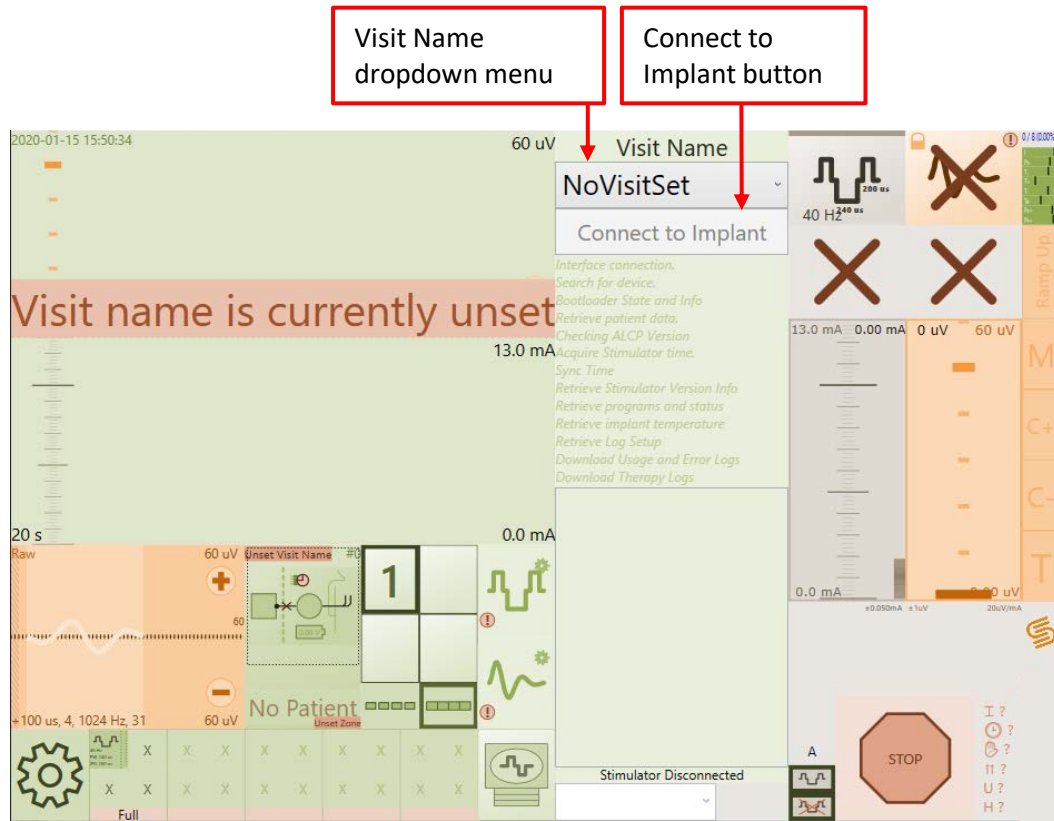

Figure 6.3: Location of the Visit Name dropdown menu and Connect to Implant button.
5. Choose the appropriate Visit Name from the dropdown menu (see Figure 6.3).
6. Touch *Connect to Implant* to search for nearby stimulators (see Figure 6.3).